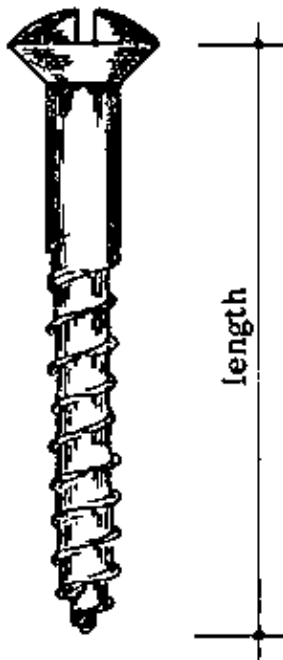

Fig. 3
– RAISED COUNTERSUNK HEAD SCREWS: The head of this screw combines the round and countersunk heads; round on top, tapering underneath. It is stronger than the round head screw because the head is less likely to break off. The length is measured as indicated in Fig. 3.